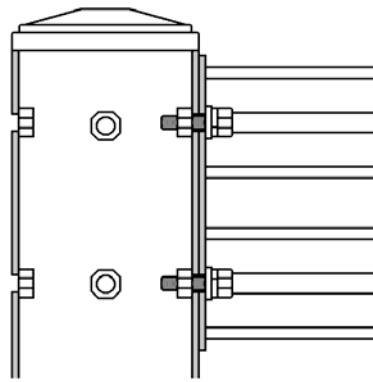
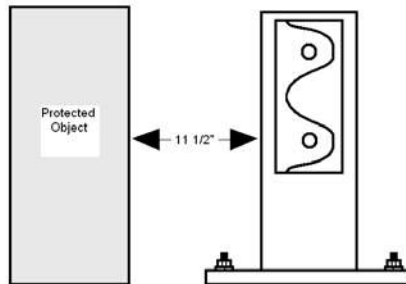

Figure 1 - Cut-Away View
Figure 2 - Rail Placement
5. Using the provided hardware, bolt the rails into place on the columns as seen in Figure 1. The front of the rail with the Rhino Rails logo should face away from the protected object as seen in Figure 2. Please Note: When installing Lift Out Adaptor option, the included lock washers are not required.